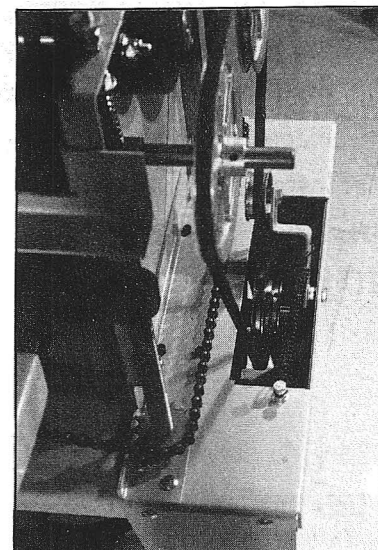

Fig. 14
2. Remove the belt from the Two Step Pulley (RB-296). (fig. 14)